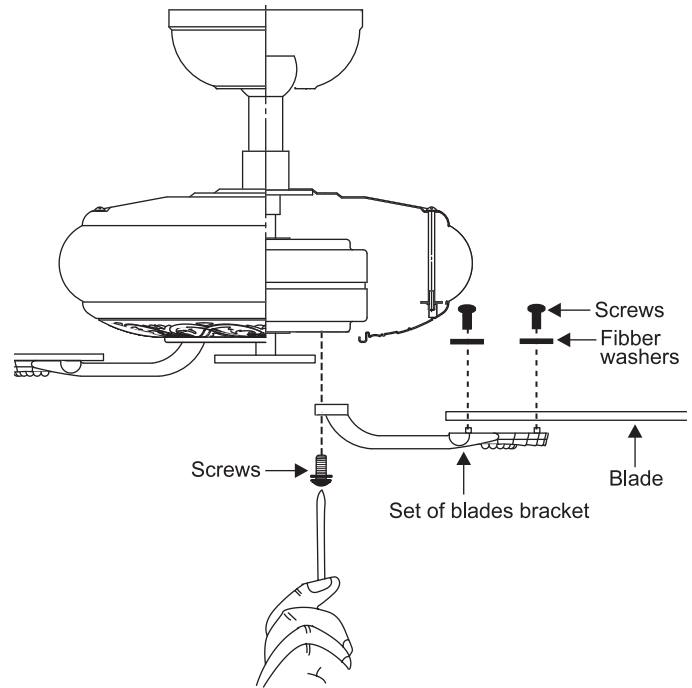

Figure 16
**Step 1** Attach the blade to the blade bracket using the screws and fiber washers as shown in Figure 16. Start screw into bracket. Repeat for the two remaining screws.
**Step 3** Fasten blade assembly to motor using the screws supplied. (Fig. 16)